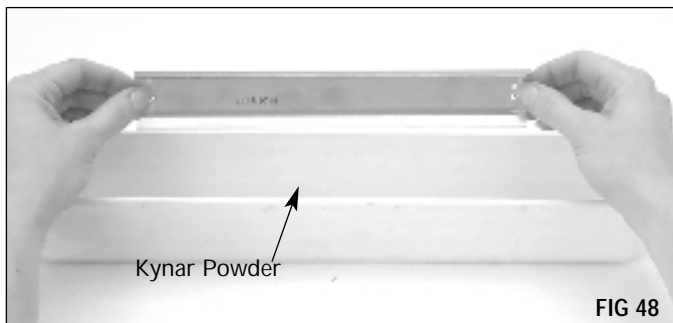

FIG 47
5. Clean and inspect the wiper blade. To avoid damaging the working edge of the blade, SCC recommends cleaning the wiper blade only with dry, filtered, compressed air (FIG 47). For best results, replace the Wiper Blade each time you replace the drum.